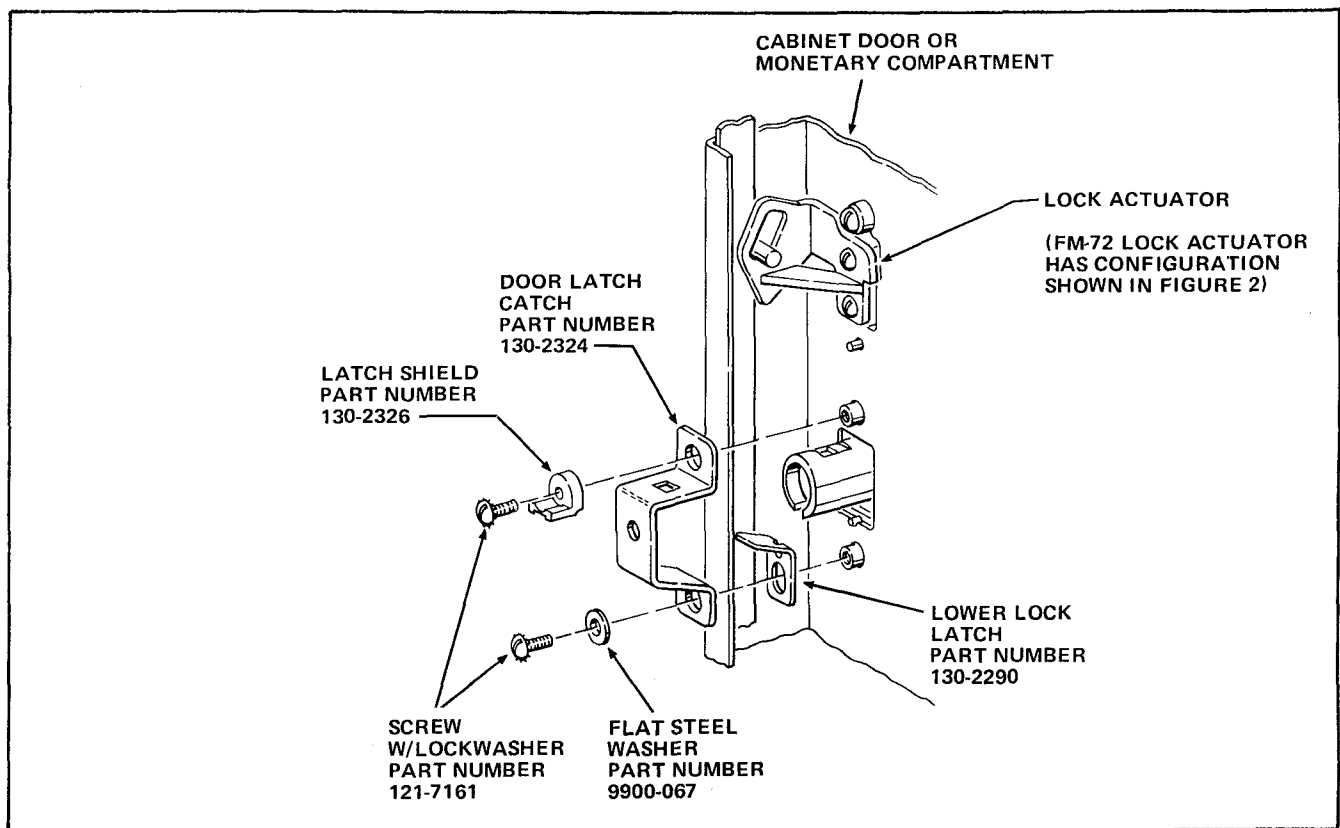
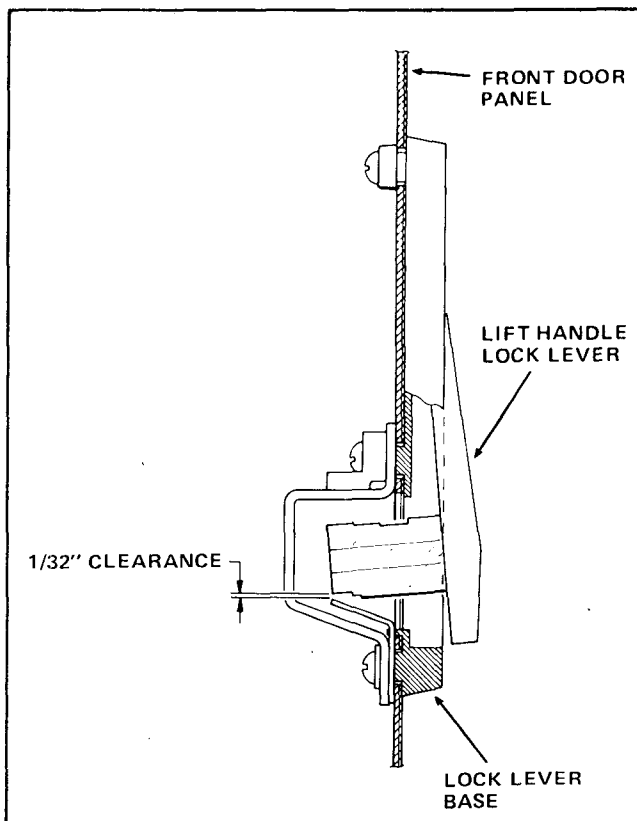

FIGURE 3
FIGURE 4
1. Install the Lower Lock Latch, part number 130-2290 and the Door Latch Catch, part number 130-2324, (both of which are included in the Kit) on the Door or Monetary Compartment. See Figure 3. Attach the parts with the Flat Steel Washer, part number 9900-067 and the remaining Screw/Lockwasher, part number 121-7161, both of which are included in the Kit. See Figure 4 for the proper space adjustment of the Lower Lock Latch.
2. Install the Latch Shield, part number 130-2326 included in the Kit and attach the Door Latch Catch (step B-1) and the Latch Shield with the remaining Screw/Lockwasher included in the Kit. See Figure 3.